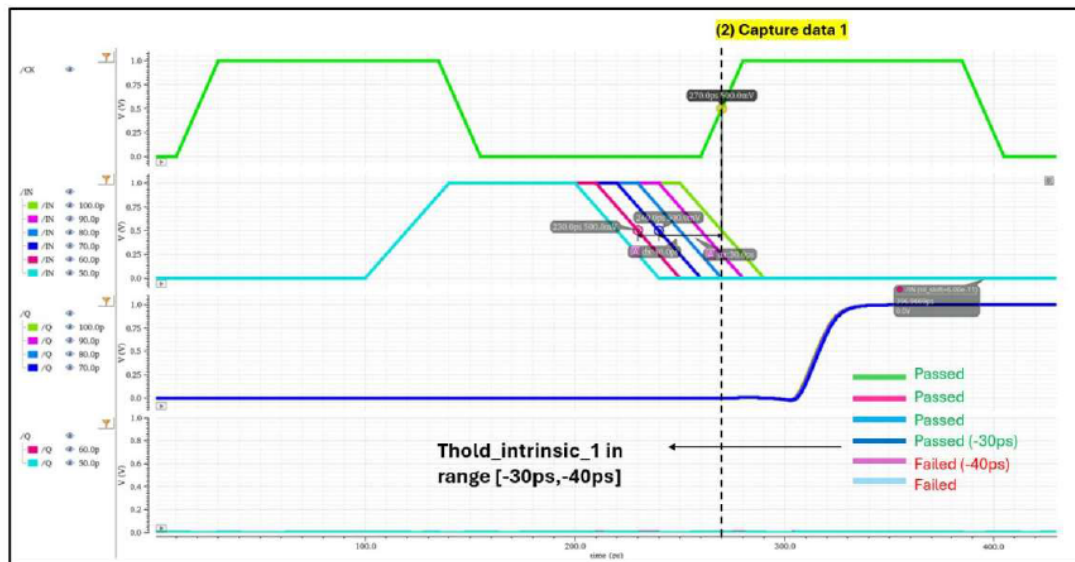
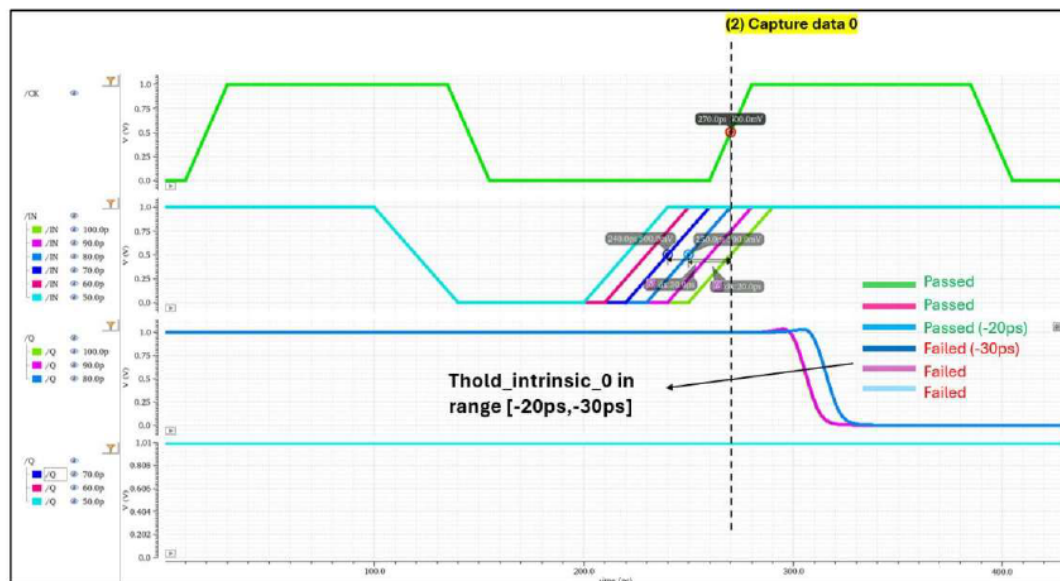

Figure 16. The waveform of hold time intrinsic data 1 of DFF
Figure 17. The waveform of hold time intrinsic data 0 of DFF
- Similar to the measurement of intrinsic setup time, the intrinsic hold time is determined from the waveforms shown in **Figures 16 and 17**.
- Report 4 waveforms used to measure the intrinsic hold time, as shown in Figure 16 and Figure 17.